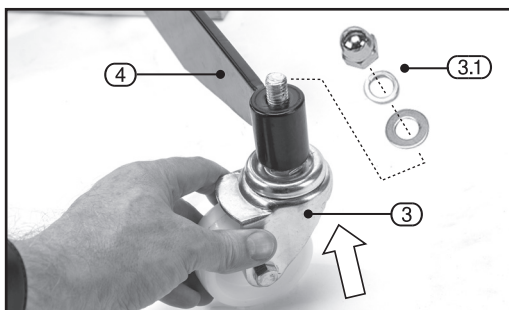

FIG.3
8.1 ATTACHING THE CASTORS – FIGS. 3 – 4